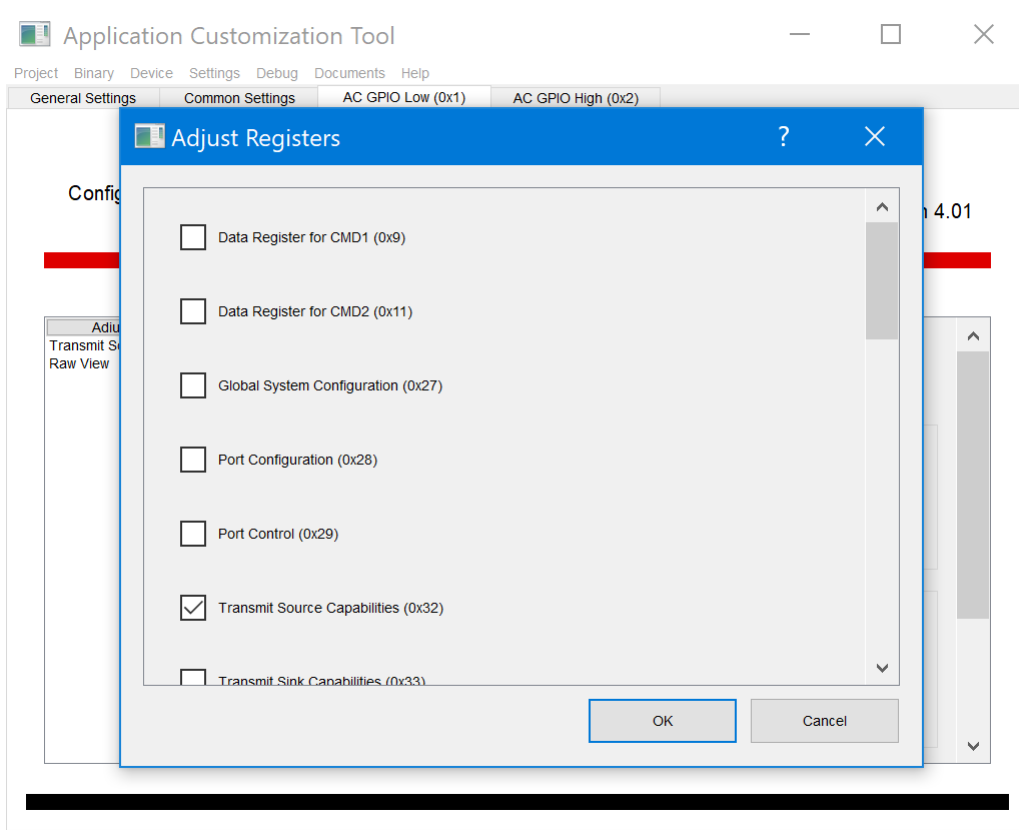
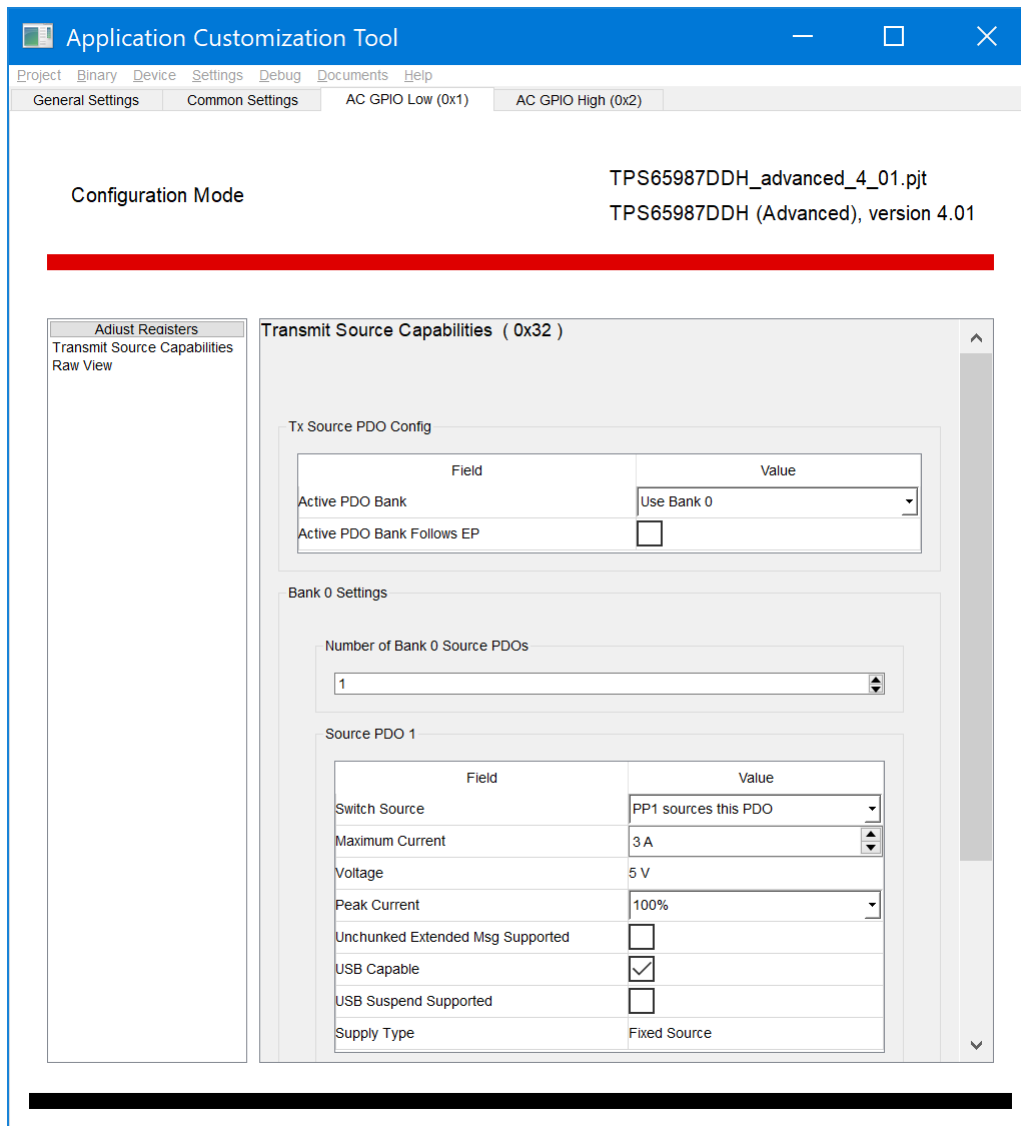

Figure 5. Adjust Registers in AC GPIO Low (0x1)
Figure 6. App Config GPIO Set Event, GPIO Low Settings Example
- Adjust Registers in *AC GPIO Low (0x1)* to set the behavior when GPIO4 goes from high to low. External hardware event can trigger the PD controller to change configuration. In this example, GPIO4 high to low transition would configure Transmit Source Capabilities register (0x32) with one PDO as shown in Figure 5 and Figure 6.